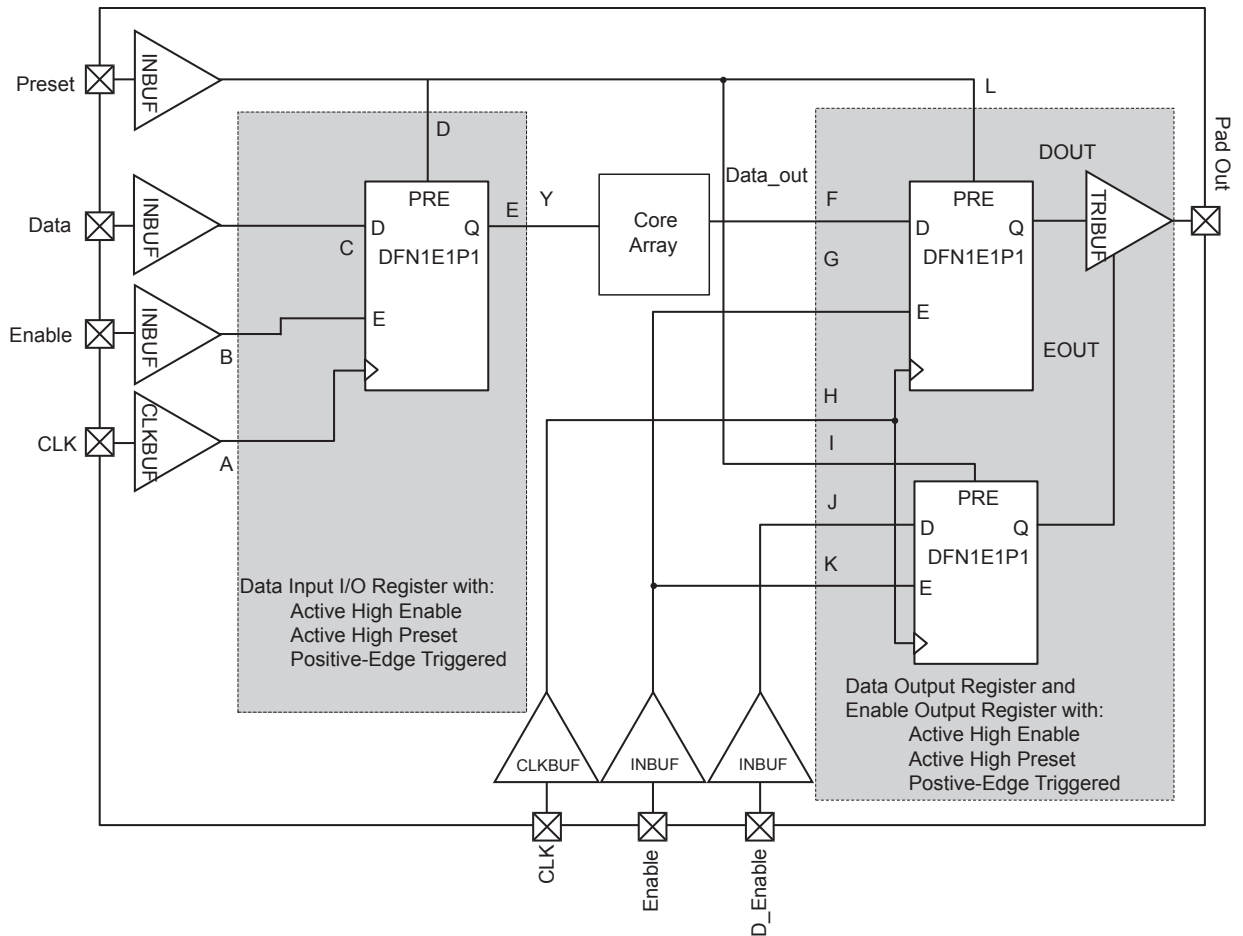

Figure 2-15 • Timing Model of Registered I/O Buffers with Synchronous Enable and Asynchronous Preset
**Note:** \*See Figure 2-15 on page 2-69 for more information.